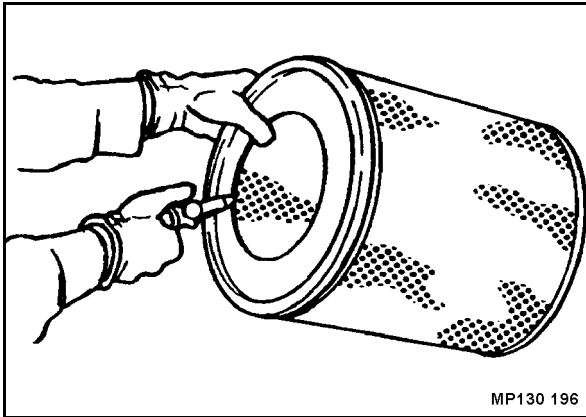

Fig. 25
- Blow the filter cartridge out from inside to outside with dry compressed air (max. 5 bar) (Fig. 25), until all dust has been removed.